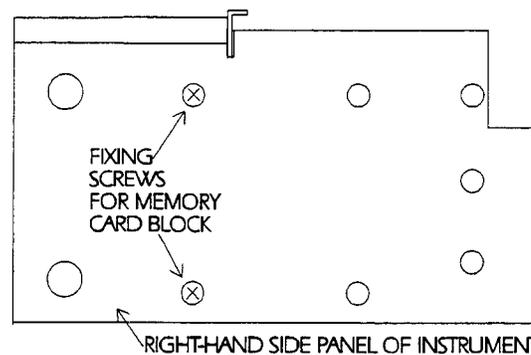

Figure 5-23. Memory Card Connector board Side Fixings
3. Remove 2 screws securing the Memory Card Block to the side of the chassis Figure 5-23 shows the location of these screws